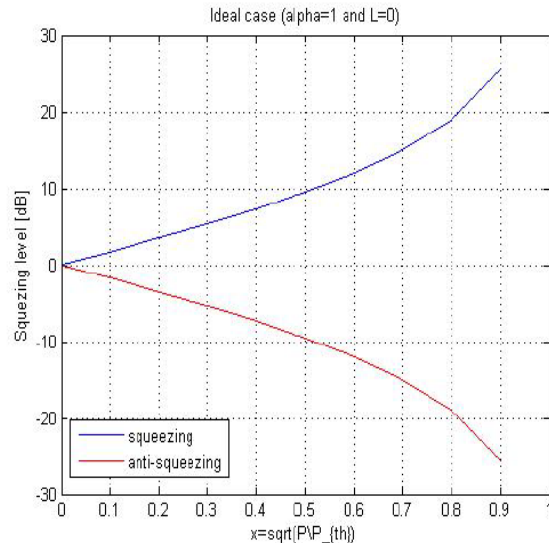

Figure 1.5. To reach 10 dB of squeezing the normalized pump power x must be at least 0.5
- 4) fig 1.5: do you place the NTC in situ before putting the copper piece into the black peek or after? in either case, it's not trivial to understand how do you manage the wires of the NTC